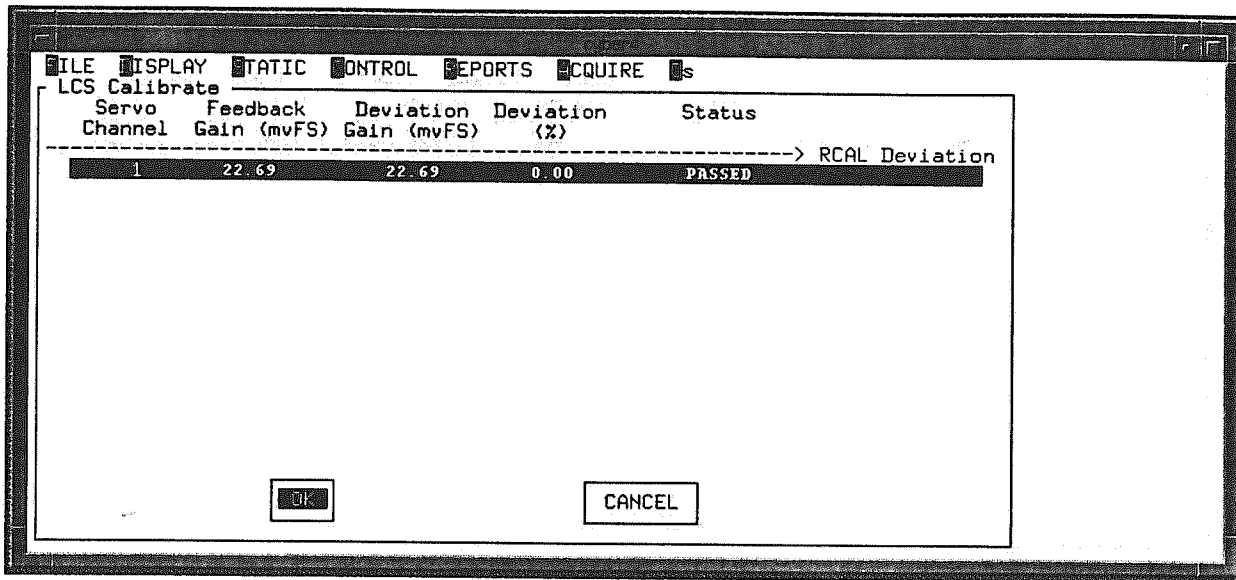

Figure 7-3 R-CAL Deviation Report Screen
- Step 5:** Once the check is completed, the R-CAL Deviation Report screen shown in Figure 7-3 is displayed. The column labeled Feedback Gain (mvFS) indicates what the new full scale feedback range would be if you were to perform the R-CAL procedure again.